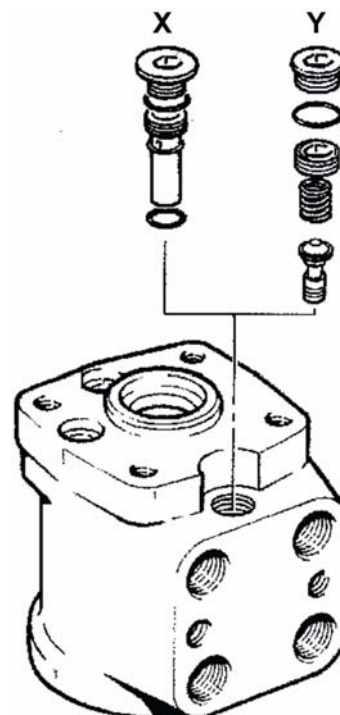

Fig 14.
- 4 Run the engine at 1500 revs/min. and turn the steering to full lock. Check the gauge reading which should equal the relief valve pressure, refer to Technical Data → Fig 14. \(□ H-15\).